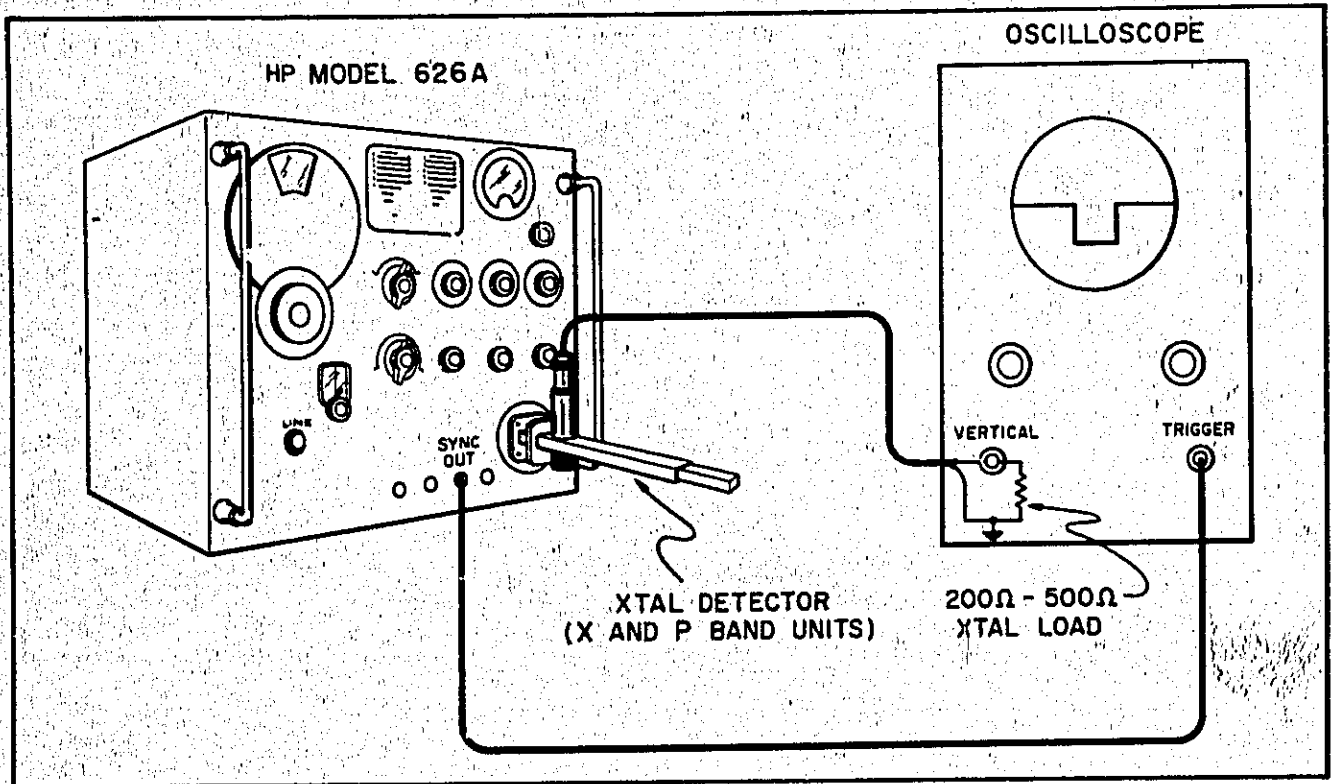

Figure 5-14. Calibration Test Setup
a. Connect test setup as shown in Figure 5-14.
- a. Connect test setup as shown in Figure 5-14. DELAYED SYNC OUT signal may be used instead of the RF pulse.
a. Connect test setup as shown in Figure 5-14 except that DELAYED SYNC OUT signal is to be used for triggering oscilloscope.